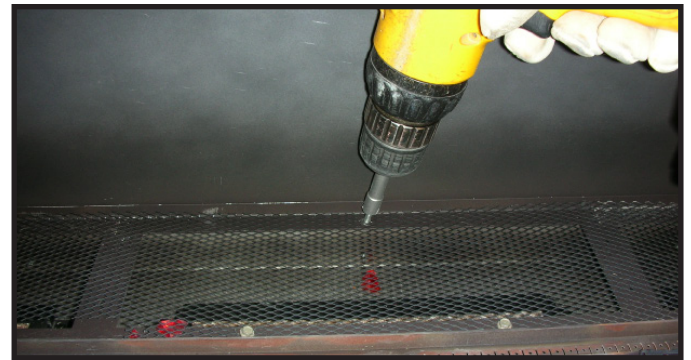

Figure 9. Removing Screws from Basepan.
1. Ensure fireplace is turned off and glass is cool to the touch before beginning installation. Remove back row and sides of 1/4 inch sheet metal screws from base pan as shown in Figure 9. The screws will be located either on top of or underneath the mesh. If underneath mesh, lift mesh screen up and remove for access to screw heads. Discard mesh.